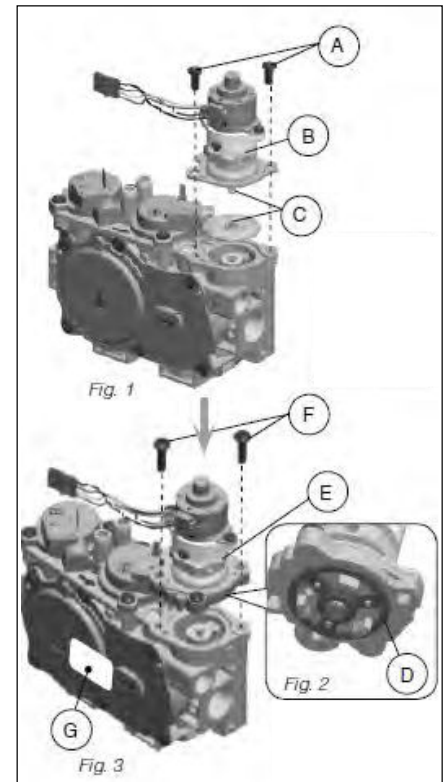

**Figure 27: Elevated Burner Orifices (x2)**
5. Convert the elevated burner orifices with the ones provided in this kit using a **ratchet with a 1/2" deep socket and a 5/8" wrench**. Use the 5/8" wrench to hold the base nut of the burner orifice while using the 1/2" deep socket to remove the orifice (figure 27 & 28). The left and right elevated burners have the same orifice size.